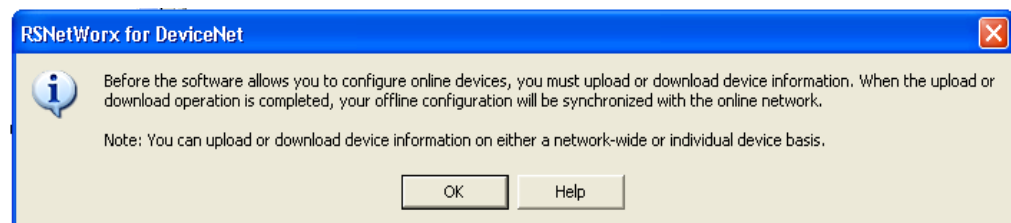

Figure 3-14: Confirmation Dialog Box
3. Click OK to continue. A dialog box like the one shown in Figure 3-14 will appear. Note that you may be asked to upload or download, depending on the version of software used.